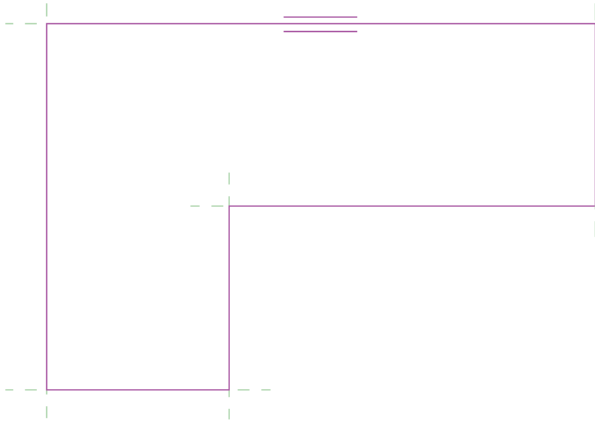

FIGURE 1.7 Floor sketch lines after trimming the corners
7. After the first corner is cleaned up, Revit remains in the Trim/Extend To Corner tool; click the next two intersecting lines to clean up their corner. Repeat these steps until each corner is cleaned up, as in Figure 1.7.